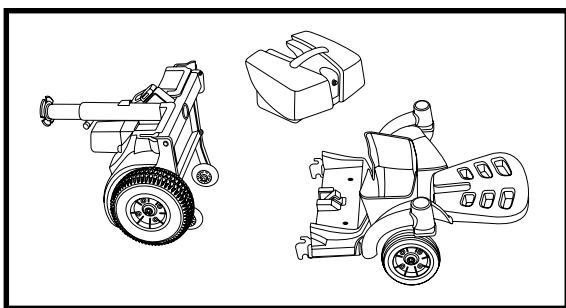

Figure 13. Rear Section Positioning
1. Tilt the Z-Chair rear section rearward onto the anti-tip wheels. See figure 13.